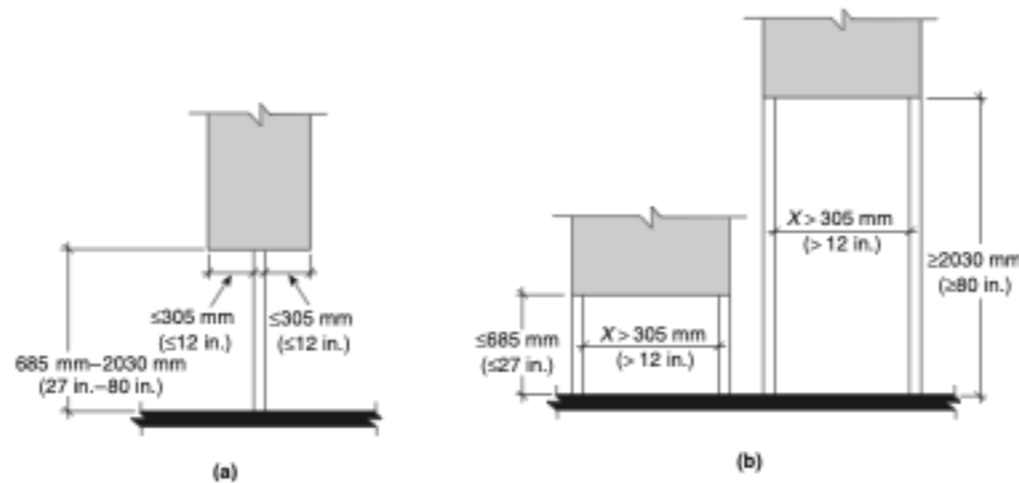

FIGURE J.3 Post-Mounted Protruding Objects.
**J.3 Post-Mounted Objects.** Freestanding objects mounted on posts or pylons shall overhang circulation paths 305 mm (12 in.) maximum where located 685 mm (27 in.) minimum and 2030 mm (80 in.) maximum above the finish floor or ground. Where a sign or other obstruction is mounted between posts or pylons, and the clear distance between the posts or pylons is greater than 305 mm (12 in.), the lowest edge of such sign or obstruction shall be 685 mm (27 in.) maximum or 2030 mm (80 in.) minimum above the finish floor or ground. (See Figure J.3.)